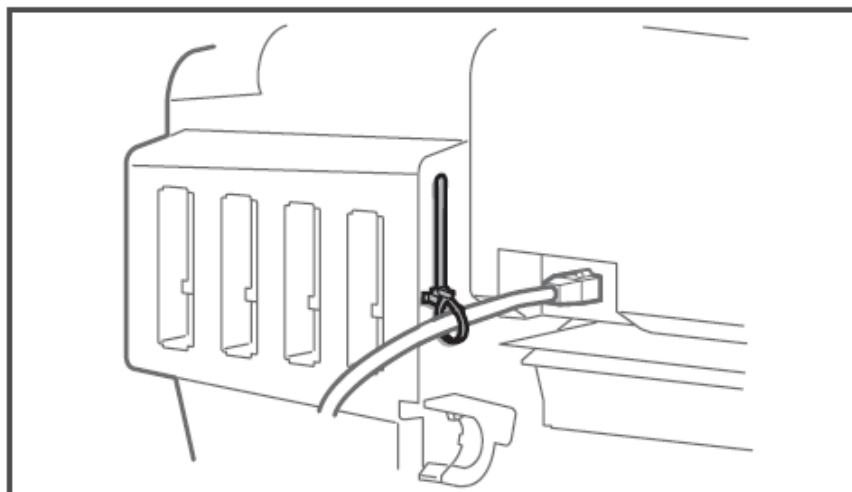

Figure 27
8. Use the tying band to fasten the ethernet cable. See Figure 27.